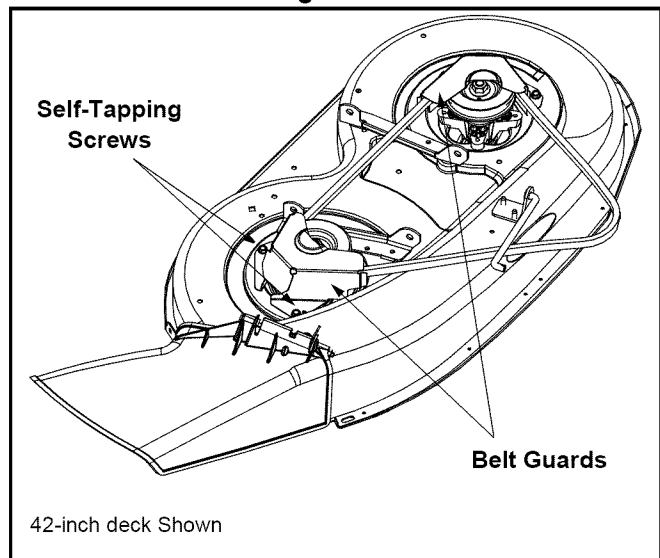

Figure 30
- Remove the belt guards (located over each spindle pulley) by removing the self-tapping screws which secure them in place. See Figure 30.
- Remove the belt guards (located over each outer spindle pulley) by removing the self-tapping screws which secure them in place. Refer Figure 30.